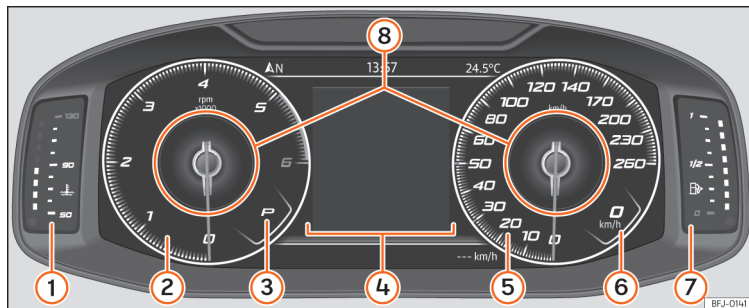

Fig. 66 SEAT Digital Cockpit on the instrument panel (classic view).
In the **Classic** and **Navigation** views it is possible to customise the information displayed under **Information profiles** » **Fig. 66 ⑧**.
»» Fig. 66.